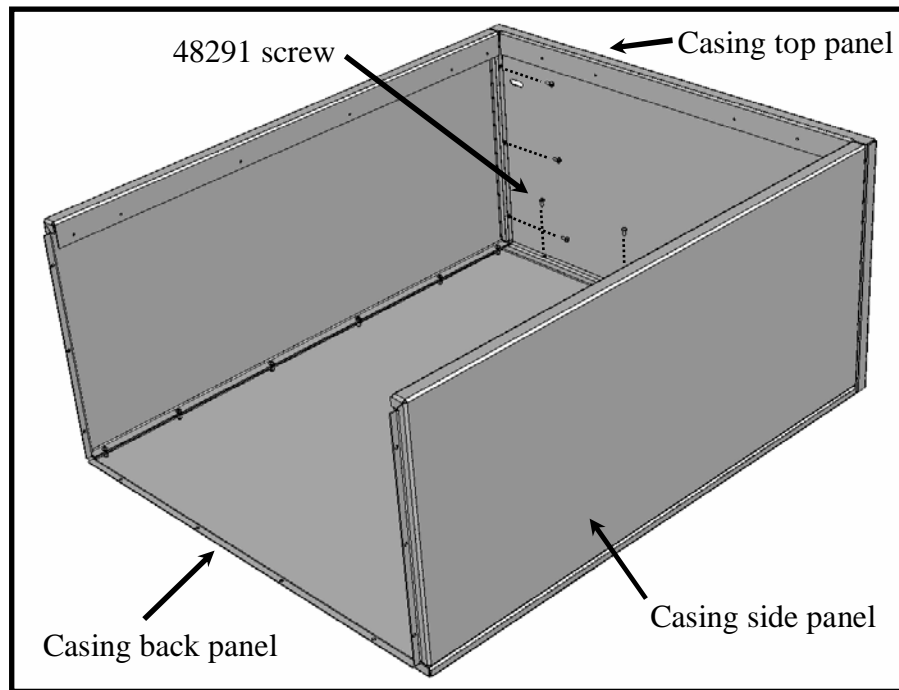
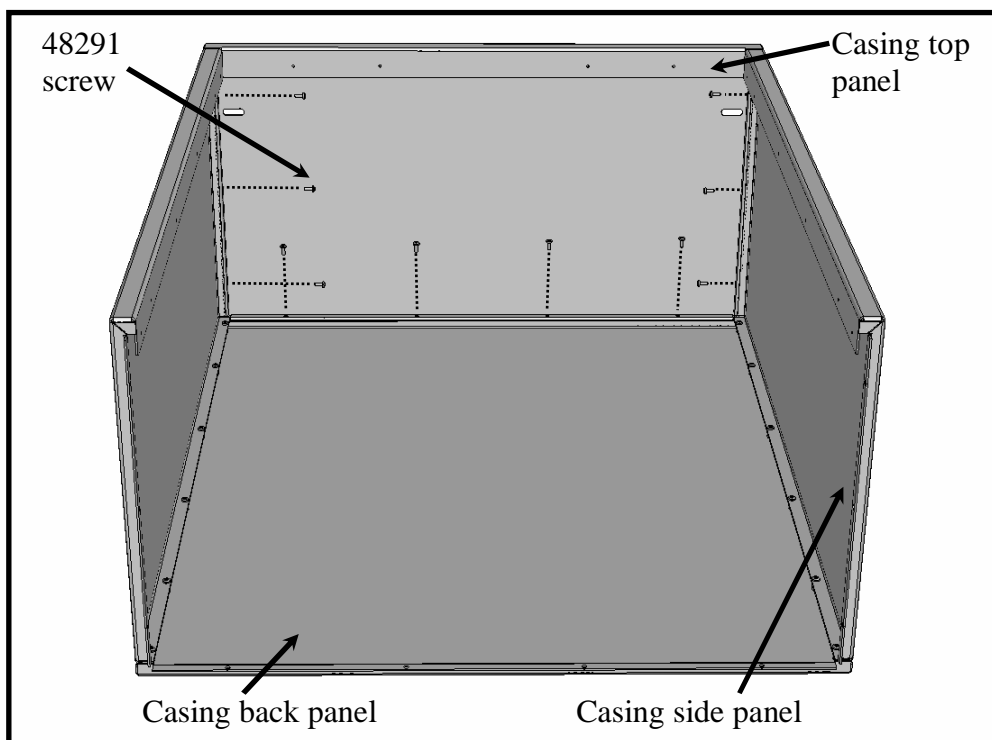

Figure 20 – Casing assembly
Figure 21 – Casing assembly – alternate view
- d) Attach top to sides and back using 48291 screws. See Figure 20. Figure 21 shows a different view of this same assembly step.